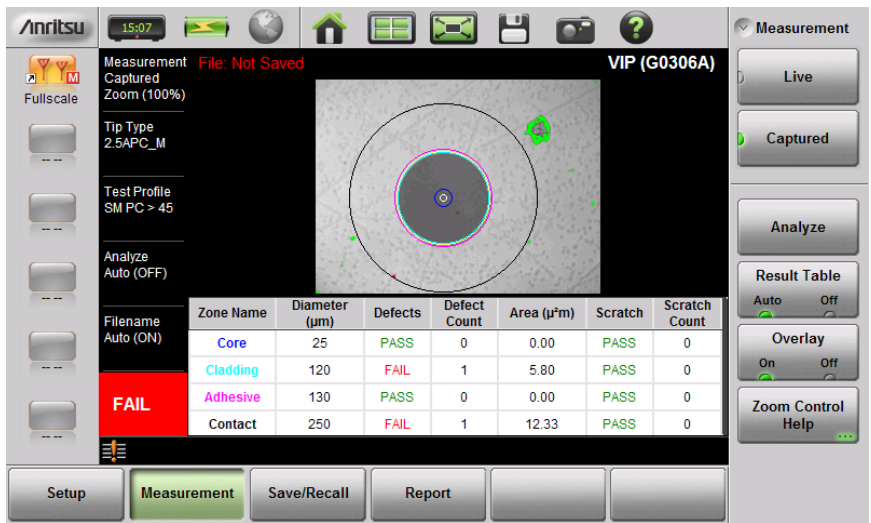

Figure 15-6. VIP Image Captured and Analyzed
6. Press the Results Table submenu key to show or hide the detailed analysis results. See Figure 15-6. For each of the analysis areas, or zones (core, cladding, adhesive, contact), the table shows the count of scratches and contaminations or defects, and their Pass/Fail evaluation results. The table will not appear if there are no analysis results to display.